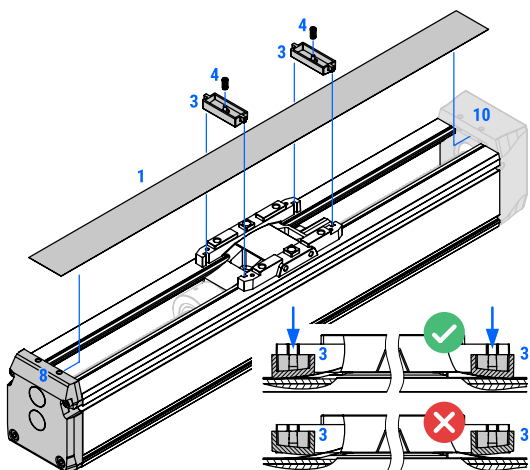

Figure 30: Protection strip replacement process: step 7, 8 and 9.
i Make sure that both outer sliders **3** are oriented correctly, as it is presented in the Figure 30.
STEP 9: Put new outer slider springs **4** into both outer sliders **3**, see Figure 30.